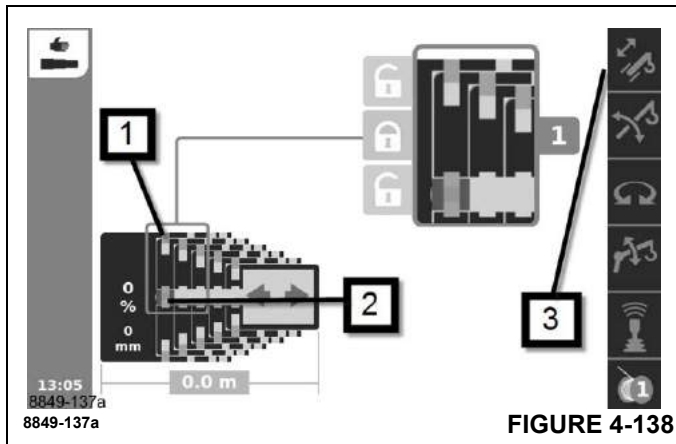

FIGURE 4-138
- Telescoping mechanism on – symbol (3), (Figure 4-138) green.
- Telescopic section locked – symbol (1), (Figure 4-138) green.
- Telescoping cylinder unlocked – symbol (2), (Figure 4-138) red.